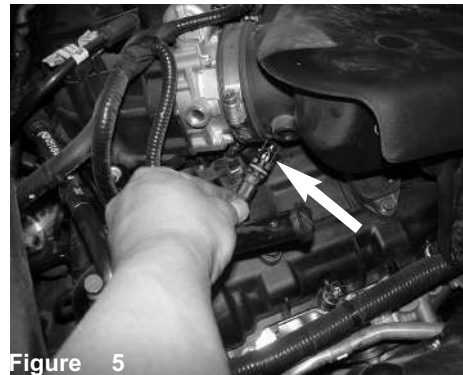

Figure 5
Figure 23: (A) Use a M6 nut and fender washer to secure the intake bracket to the vibramount. Make your final adjustment and secure the clamp on the hose in figure 5 (B) Use the 10"-15mm vacuum hose and connect the vacuum nipple on the intake tube to the crank case vent tube